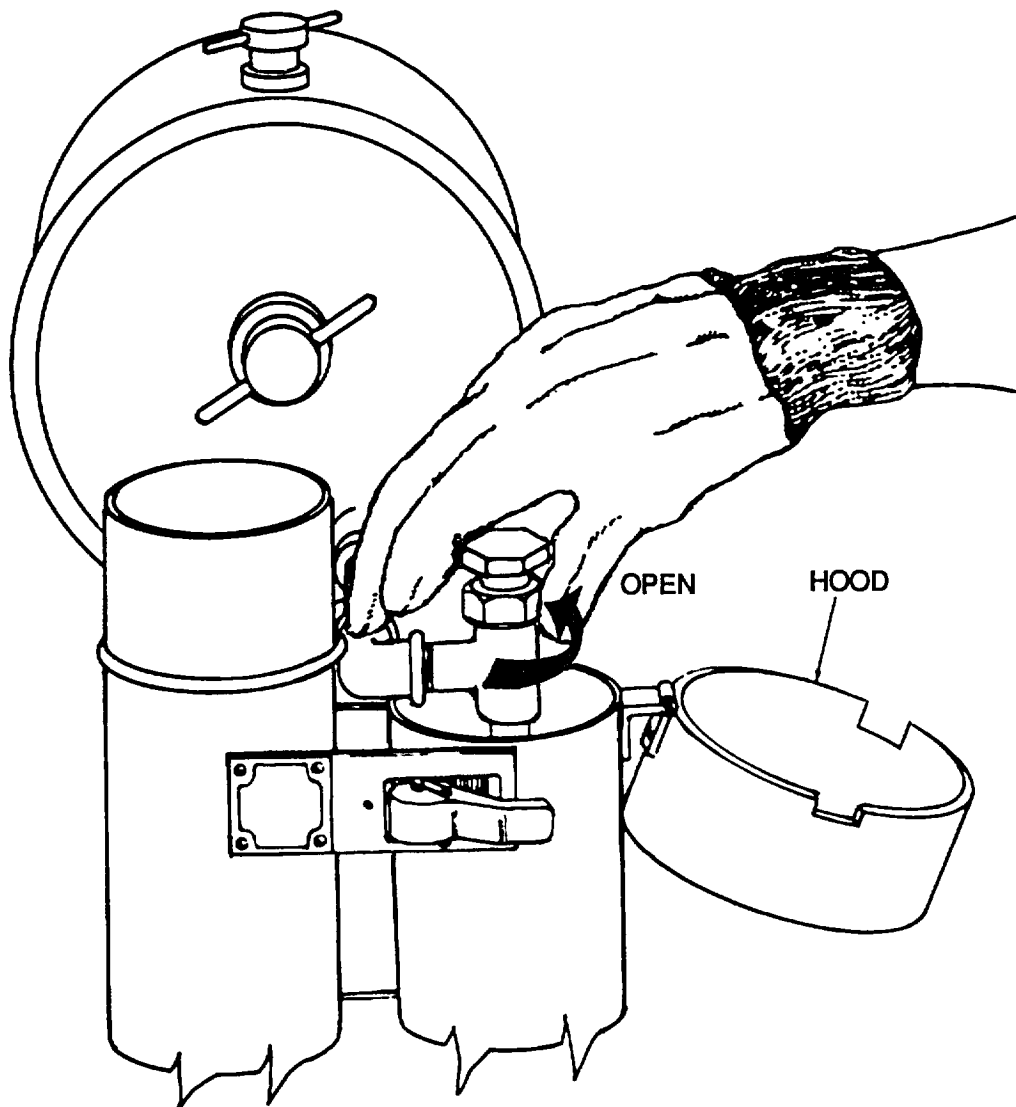

Figure 2-5. Lighting Burner and Adjusting Fuel Valve
- (b) Wearing heat protective gloves (Item 4, Appendix E), open the fuel valve (Figure 2-5) and ignite the stream of fuel with the burning cup. The burning fuel will fall on the burner vaporizer plate.